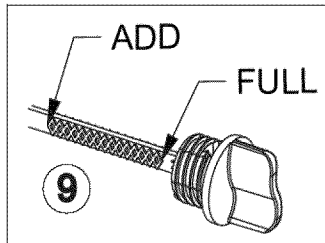

Figure 2-14. Oil Fill/Dipstick
3. Wipe dipstick clean (Figure 2-14).